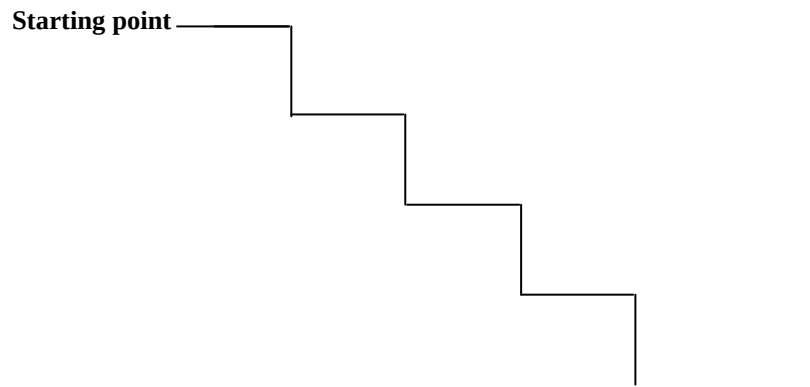

Figure 58 - Illustration of optimal trajectory for fine alignment
- ❑ Error estimations from the INS Kalman filter are improved when optimal trajectories are performed. The optimal trajectory to achieve fast fine alignment is “staircase” shaped, as illustrated in Figure 58, with a typical duration of 3 to 5 minutes for each step. Such a trajectory allows the Kalman filter to assess all sources of errors of the system, to correct them and to achieve optimal performances at the end of the fine alignment process.